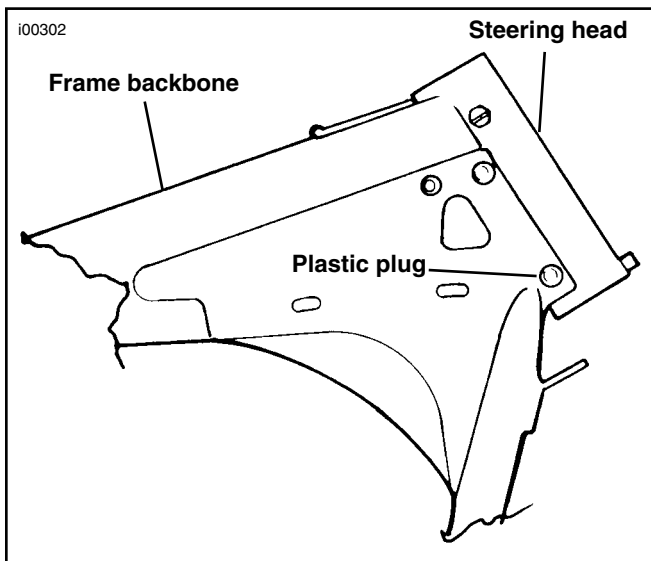

Figure 13. Remove Plug From Frame
1. See Figure 13. Using the sharp edge of a knife, carefully pull out the plastic plug in forward area of frame.